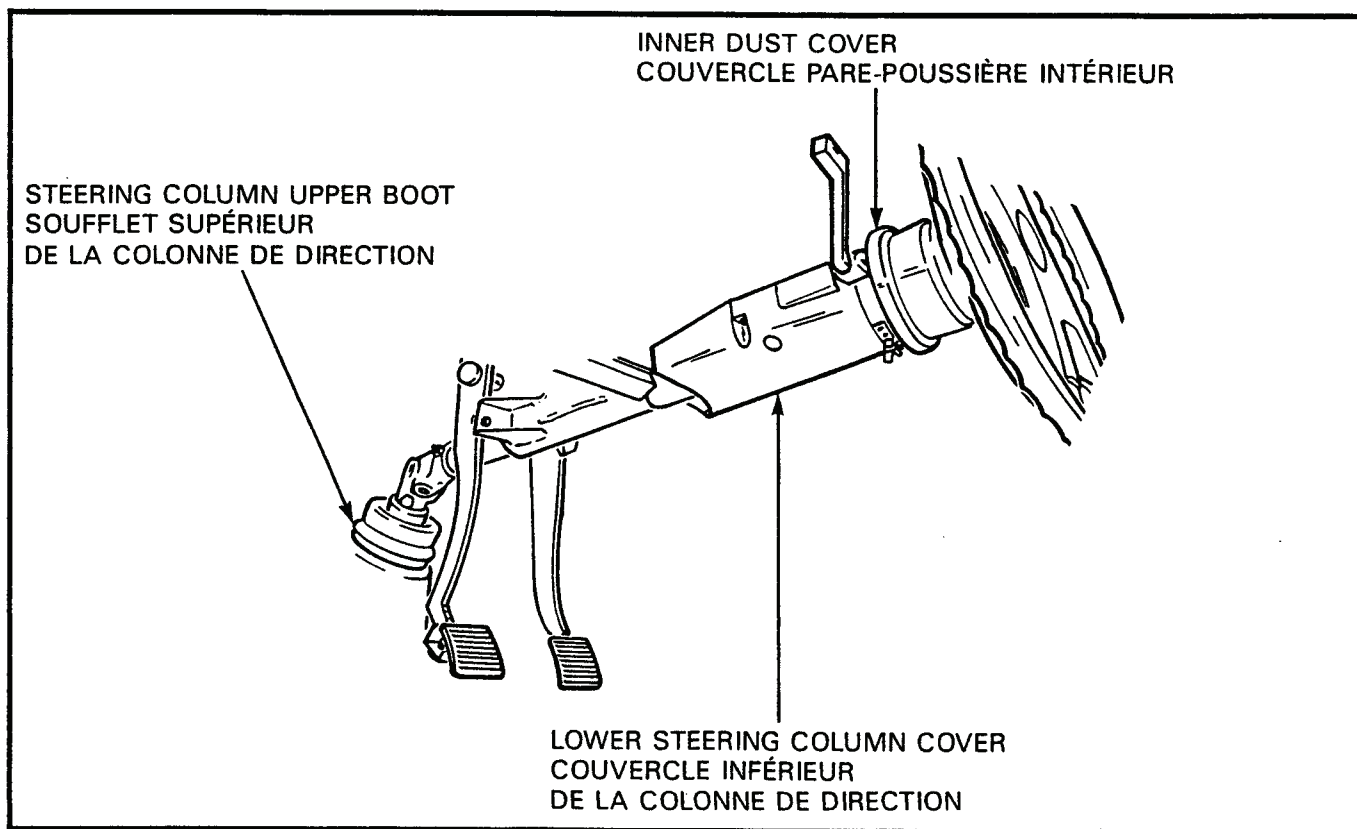

Figure 4-1-2 Inner Dust Cover
- b. Remove the inner dust cover, see Figure 4-1-2.
- b. Enlever le couvercle pare-poussière intérieur. Voir figure 4-1-2.